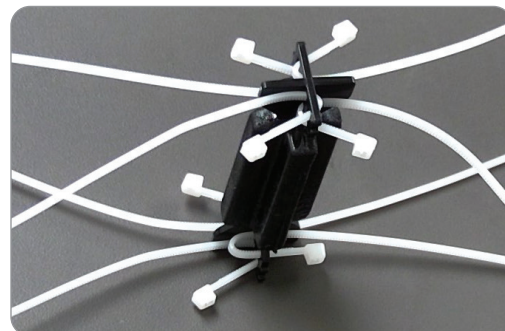

Figure 2
1. Slip 8 tie wraps in unit in opposing directions. (Figure 2)